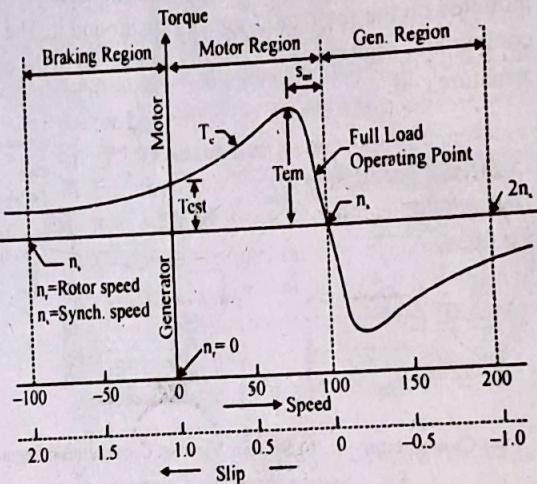

Fig. 3 : Torque-slip curve for an induction machine
The variation of torque with slip or speed of an induction motor can be plotted from Eq. (5) for different values of slips and with the motor connected to constant frequency voltage source. A general shape of the torque speed or torque slip curve is shown in Fig. 3.